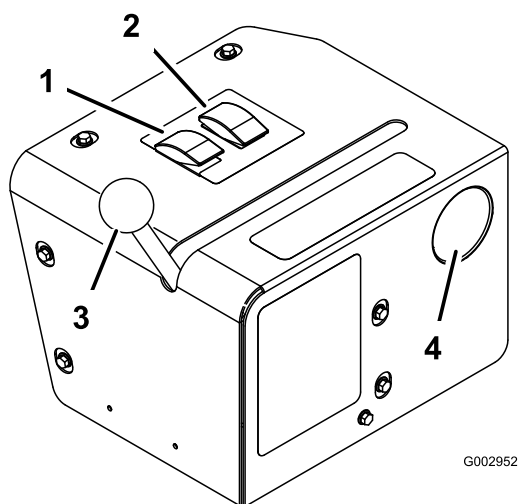

Figure 34
5. Set the spray selection switch to the hand spray position (Figure 34).
6. Move the valve control lever forward to the hand spray position (Figure 34).
7. Adjust the rate control switch and the throttle to increase or decrease the pressure, as read on the pressure gauge, to the desired setting (Figure 34).